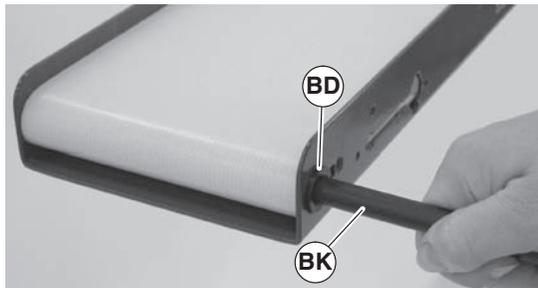

Figure 41
- Remove the sleeve arbor tool (Figure 41, item BK) and insert it into opposite side through retaining sleeve (BD).